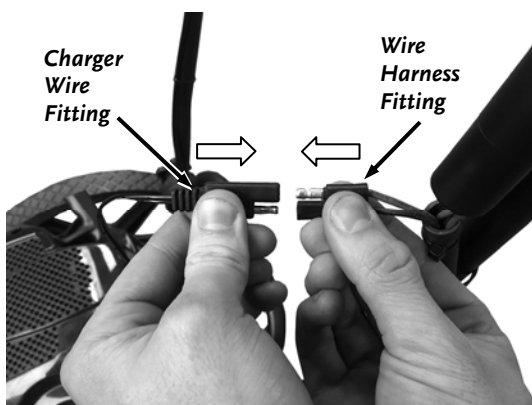

Figure 47
2. Line up the Fitting from the Charger Wire with the Fitting from the Trimmer Wire Harness and connect the Fittings together (**Figure 47**).